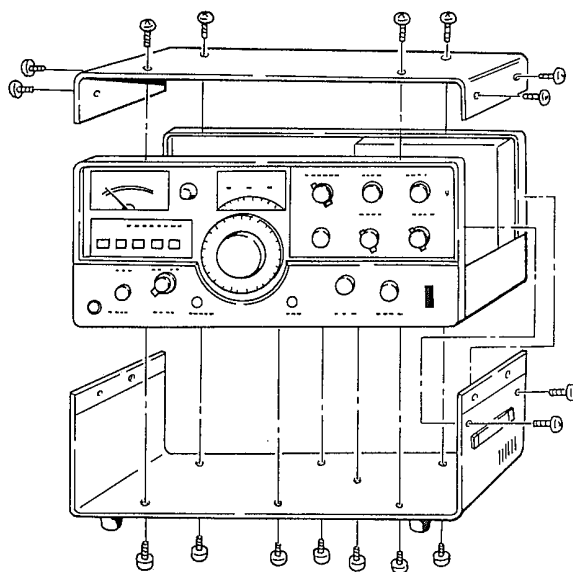

Fig. 2
2. Remove the case from the unit (see Fig. 2).